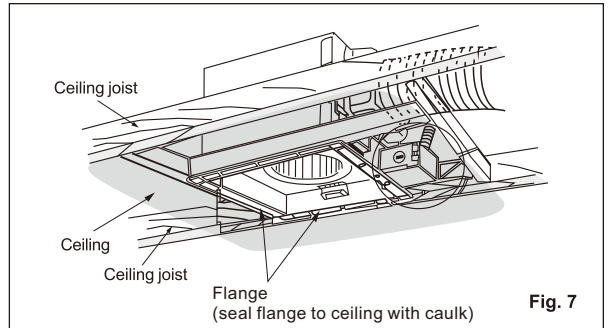

Fig. 7
5. Finish ceiling work by sealing gaps between flange and ceiling with caulk or approved sealant. (Fig. 7)